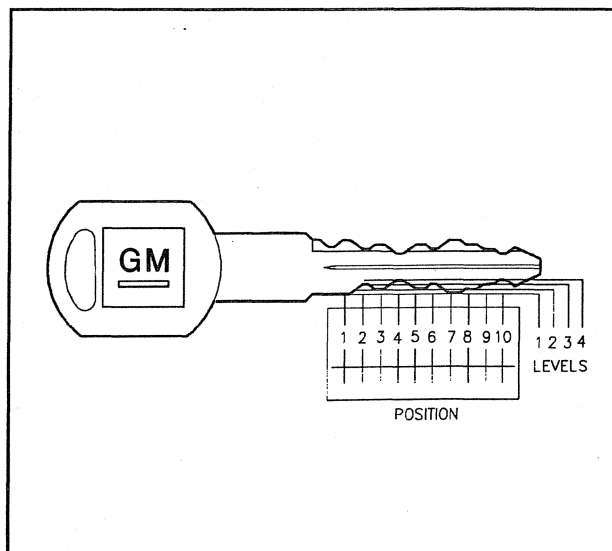

Figure 21—Key Code Diagram
- Without the numerical key code or without a code list, read the key (refer to figure 21).